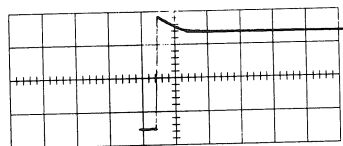

Fig. 7-4 Effect of "cathode interface" in V.A. 0.5 μ sec/cm.
7.1.3.3 Distributed Amplifier Tube Defects: If tube replacement in 7.1.3.2 does not eliminate changes in slope (Fig. 7-4 or 7-5) with line-voltage change, distributed amplifier tubes (6CB6's or 6DK6's) will require replacement. (Do not mix tube brands.)